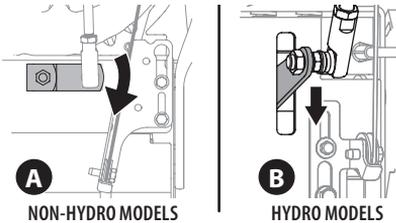

Figure 57
3. Make sure the shift lever on the back of the transmission is rotated downward to the full extent of its rotation. See Figure 57, Detail "A" for models without hydro transmission or Detail "B" for models with hydro transmission.
4. Rotate ferrule up or down on shift rod as necessary until it lines up with upper hole in shift lever (Figure 57 inset).